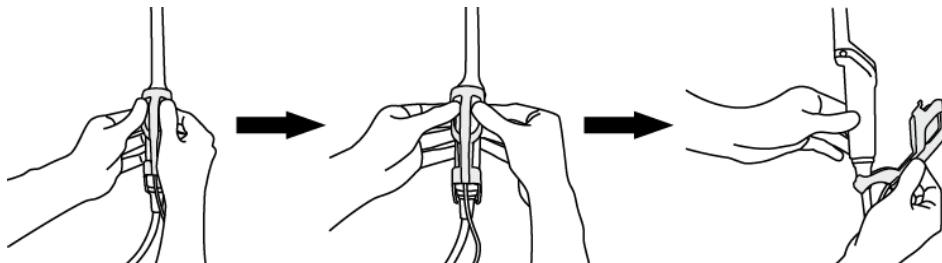

Fig.11
1) Detach the Magnetic sensor attachment from the probe as shown Fig.11.